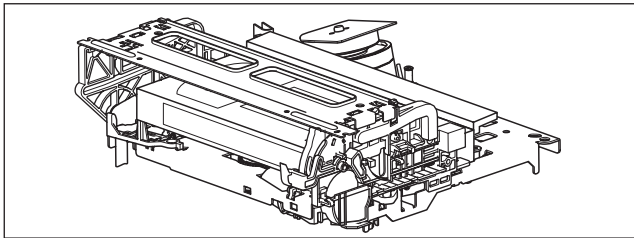

Fig.2-1a
- (1) Unplug the power cord plug from the power outlet.
- (2) Refer to the disassembly procedure of the VCR and perform the disassembly of the major parts before removing the mechanism assembly. (See Fig. 2-1a)